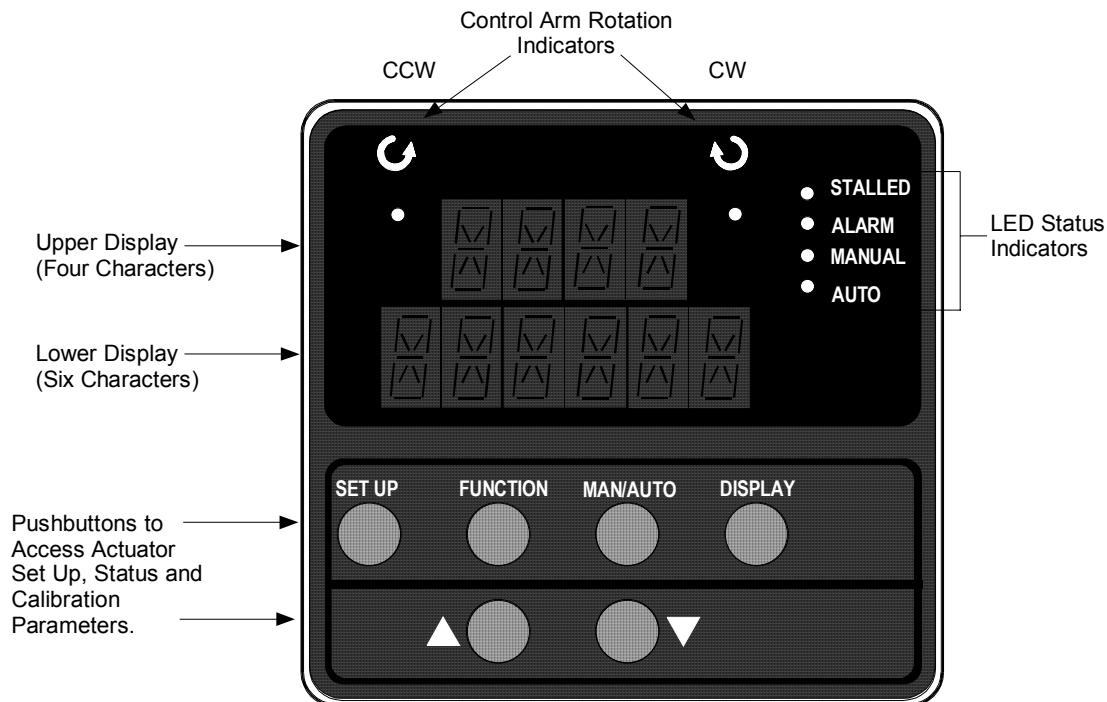

Figure 2 Local HMI (Display and Keypad)
- **Local HMI Configuration** – An integral keypad and high intensity display is available for non-intrusive local configuration of the actuator (Figure 2).
Configuration and set-up is through the local HMI, consisting of a display and keypad interface (Figure 2). A high intensity 10-character LED display and simple pushbuttons provide quick access for actuator set up and status information. If relay outputs are specified, all configuration can be done through either the local HMI interface. If mechanical switches are specified, then the user must manually set the auxiliary output.